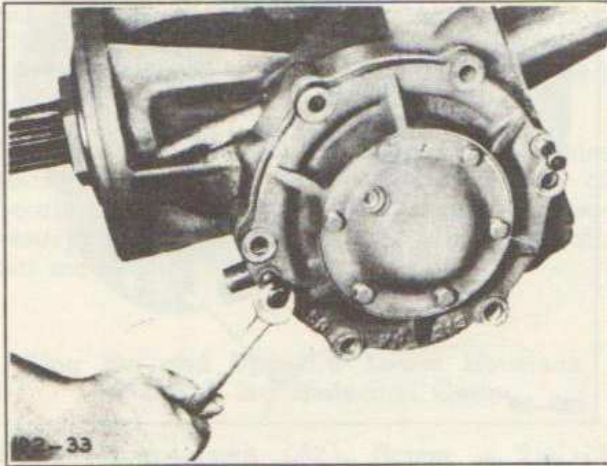

Fig. 26—Removing Lower Bearing Retainer
Remove capscrews (1) and insert puller screws into tapped holes of bearing retainer (2). Carefully remove retainer, drive shaft (3) and roller bearings (4) and (11) by applying pressure evenly to avoid binding retainer pilot in housing bore. (See Figure 26).